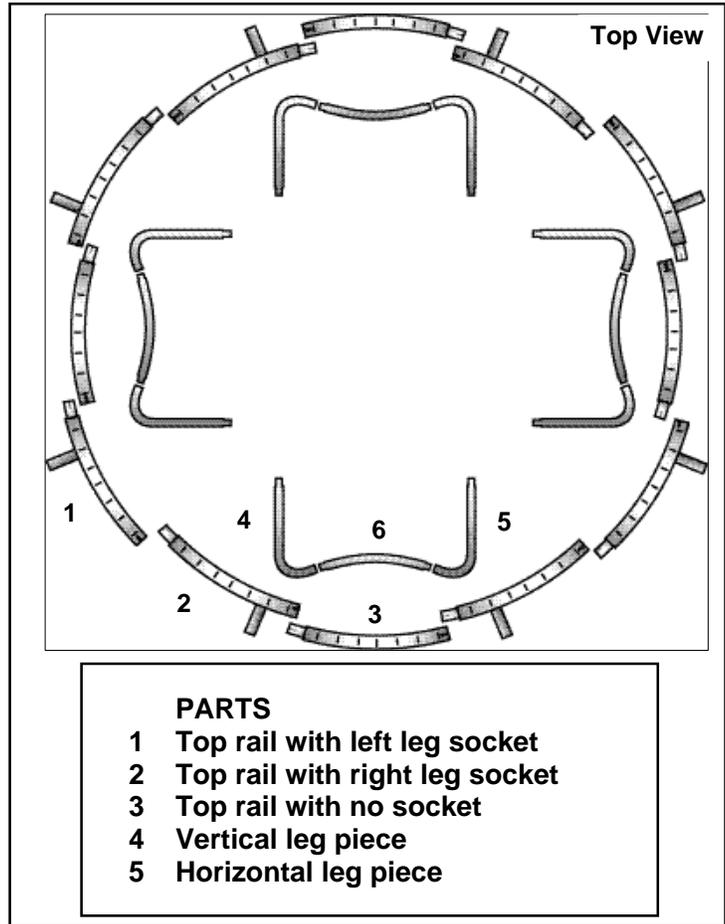

FIGURE 1
**Lay out all frame sections in a circle as shown (see Figure 1). Verify inventory of each part.**